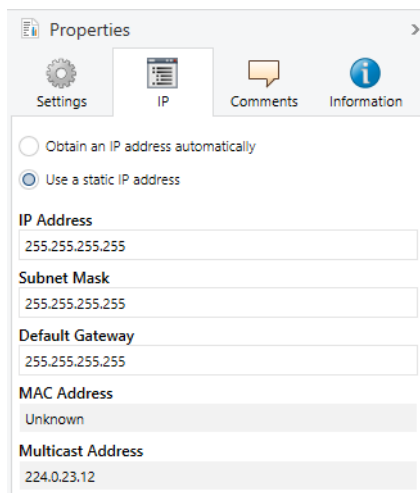

Figure 22: IP settings
3. You will find the available selection options in figure 22 and table 12 "Settings for manual IP address entry or for receiving automatically", p. 31.